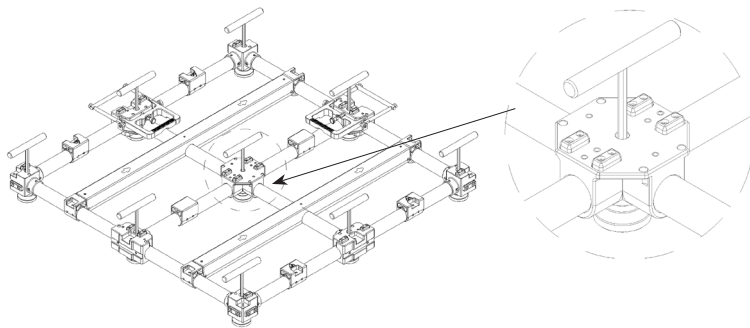
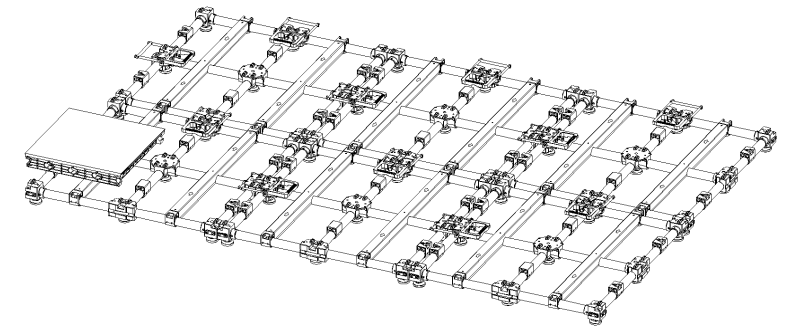

Figure 2.2.1
Figure 2.2.2
Step 1: Keep the arrow direction of the MG cabinet and the floor tile frame consistent (as shown in Figure 2.2.1), align the box block of the floor tile frame and place it on the floor tile support (as shown in Figure 2.2.2).